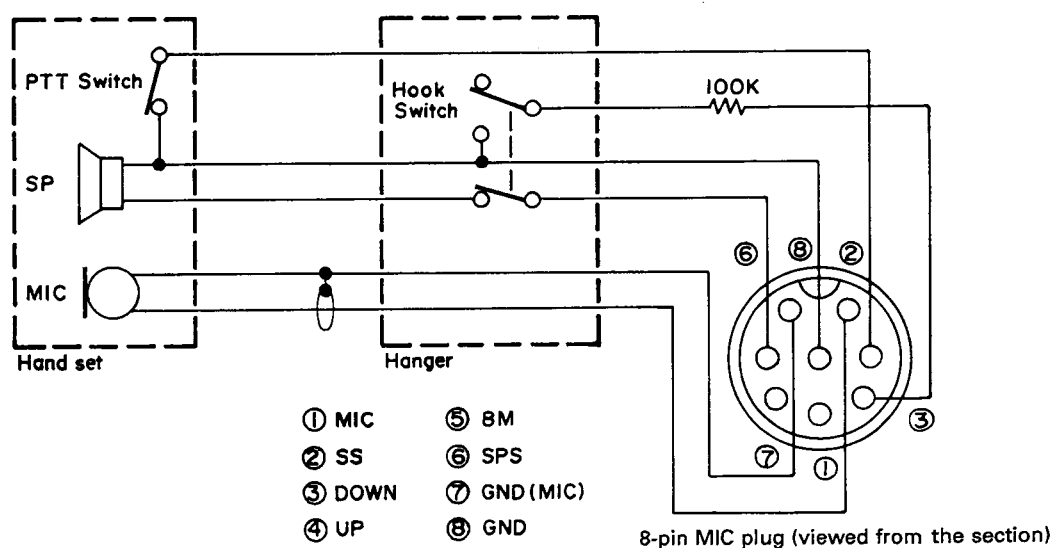
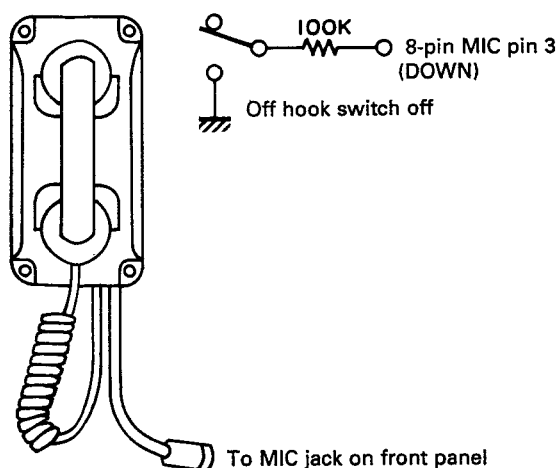

Fig. 22 Handset connection
Fig. 23 When placing handset on hanger
Connect an 8-pin MIC plug (E07-0852-15) to the handset as shown in Figure 22. Add a resistor (100 k Ω) in series to pin 3 (DOWN line). Then, connect the resistor to the off hook switch. Now when the handset is lifted, the off hook circuit is activated. The off hook switch operation is described below. (See Figures 23 and 24.)
3. When the handset is placed on a hanger as shown in Figure 23, the received tone is heard from an internal or external speaker (the SP switch is activated). The handset speaker is cut off.